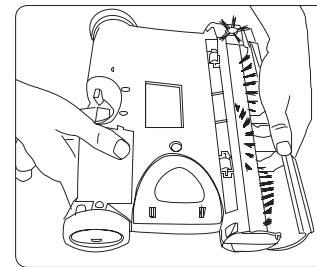

Fig. 10
3. Remove the transparent brush cover. (Fig. 10) (Refer to page 5 for detailed instructions.)